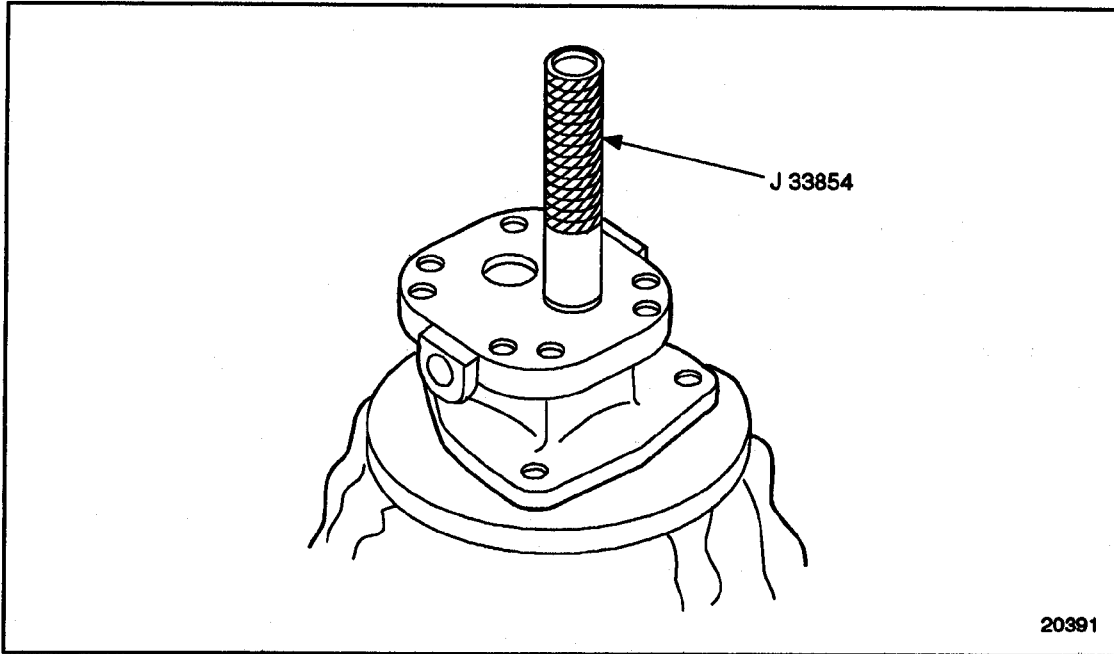

Figure 2-39 Drive Shaft Bearing Installation
17. Install a new needle bearing assembly in the drive shaft bore. See Figure 2-39.